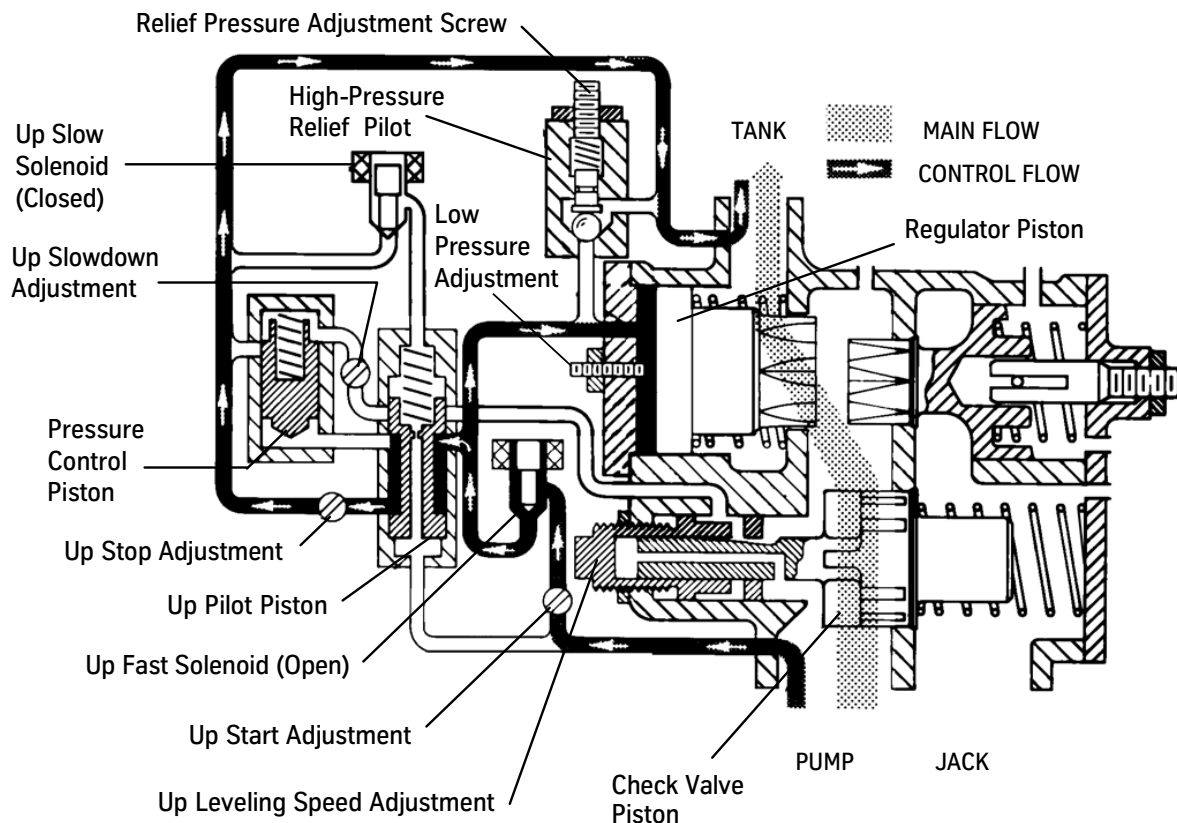

Figure 6 - Up Start Diagram
1. To start the car, the pump starts, and the up fast solenoid energizes. See Figure 6 below and Figure 7 on page 56.